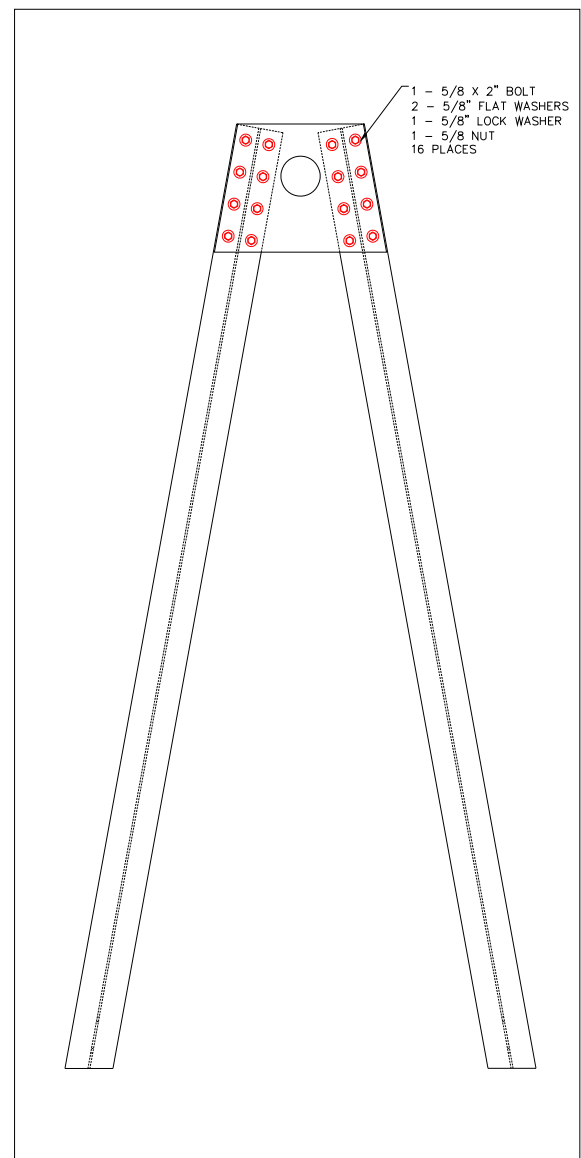

Figure 4-5 Assembly step 6
- (6) Flip the assy over and place the back “joint plate” (Item 12, Table 2-1) on the legs and loosely fasten all sixteen 5/8" x 2" bolts. Refer to Figure 4-5.